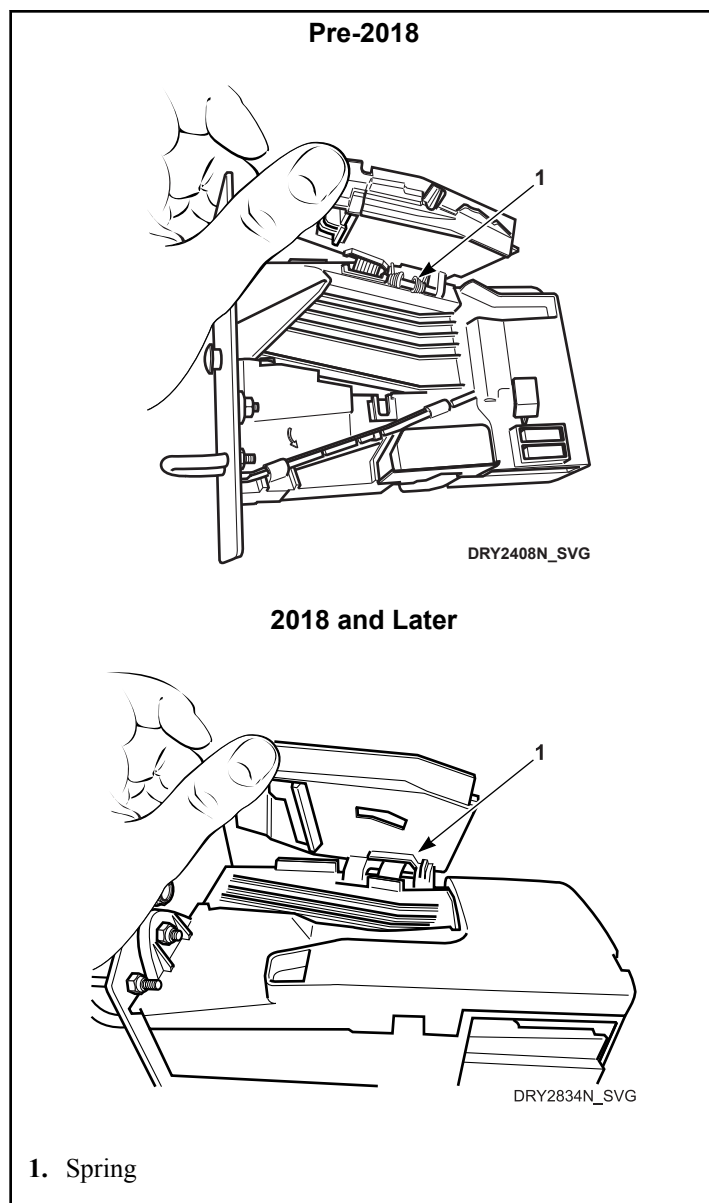

Figure 35
3. Open cover of coin drop. Refer to *Figure 35*.